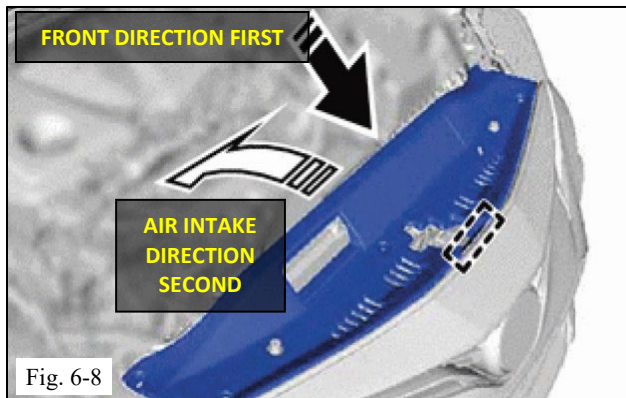

Fig. 6-8
- (k) Reinstall the radiator cover as shown by engaging the front first and then engaging the air intake (Fig 6-8).